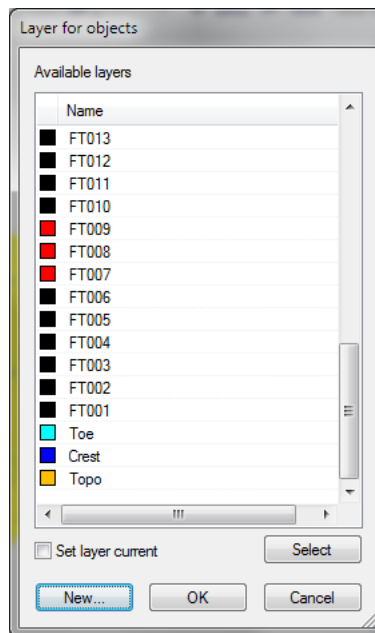

Figure 144: Layer for Objects dialog box.
7. Select the mesh, then **_ChangeLayer** which opens the **Layer for Objects** dialog box (Figure 144).